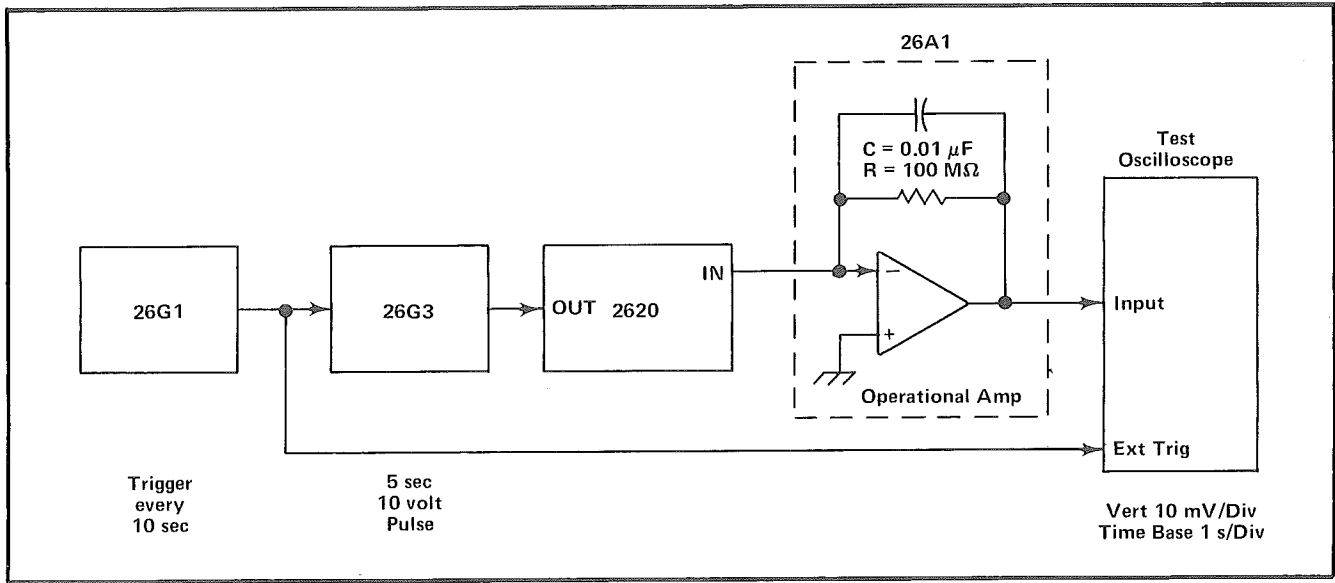

Fig. 5-1. Test setup for Step 4.
a. Set up a Trigger Generator, Pulse Generator, Operation amplifier, the 2620 Stimulus Isolator, and a Test Oscilloscope as illustrated in Fig. 5-1.